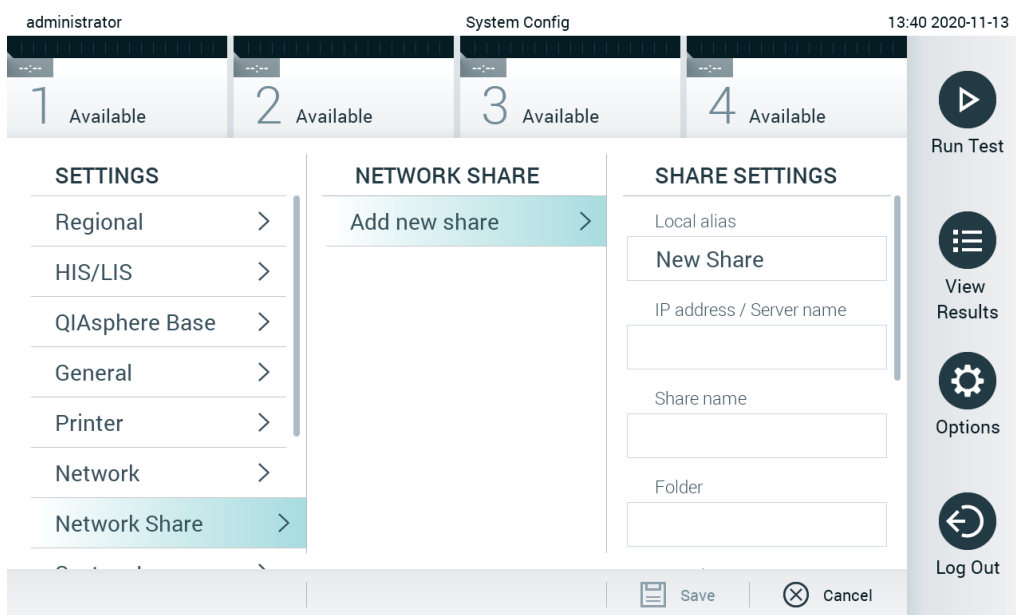

Figure 69. Adding a network share.
3. Press the **Add new share** button (Figure 69).